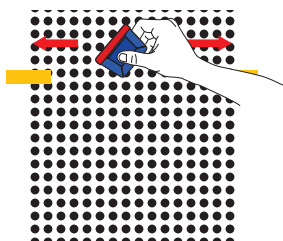

Figure 04
- › Start applying the film with a squeegee covered with felt by forming a 30° angle with the substrate and working from the centre towards the edges. (FIG. 04)